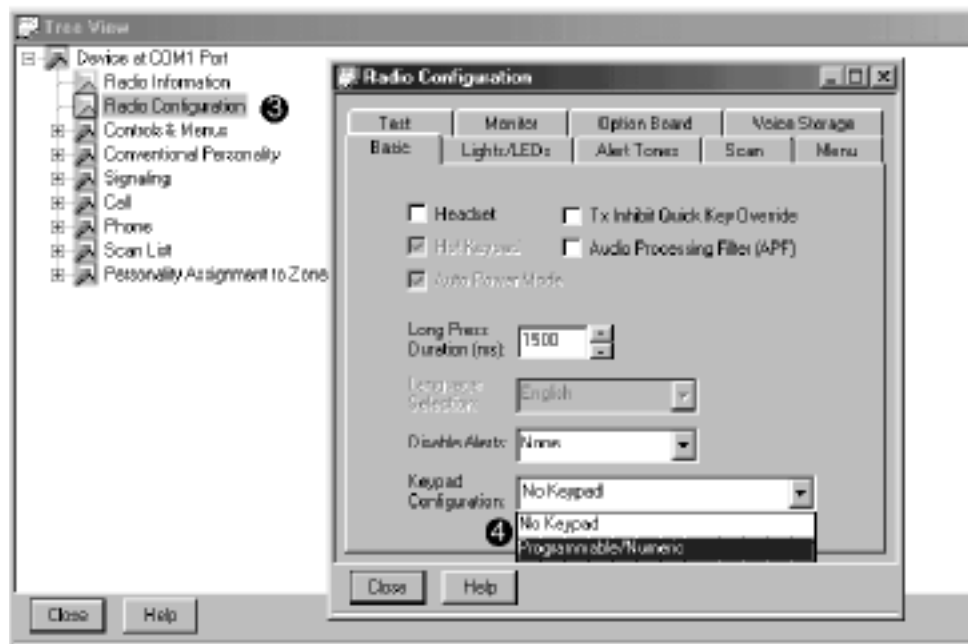

Figure 3-12. Activating the Retrofit
3. Open the *Radio Configuration* dialog box. (See Figure 3-12.)